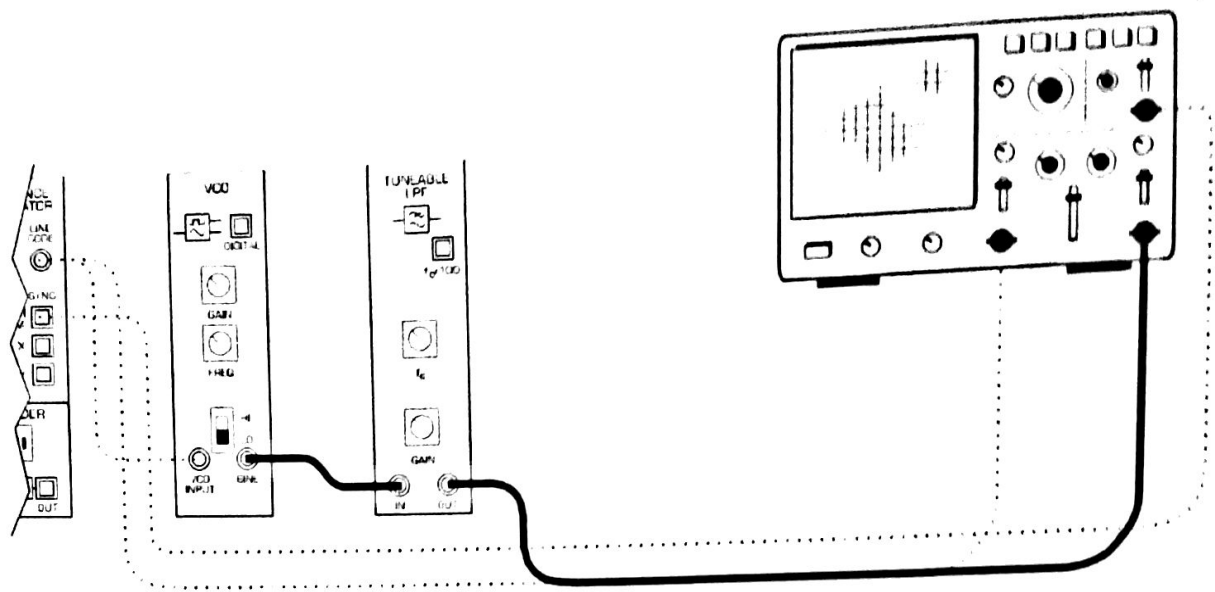

Figure 4
17. Modify the set-up as shown in Figure 4 on the next page.